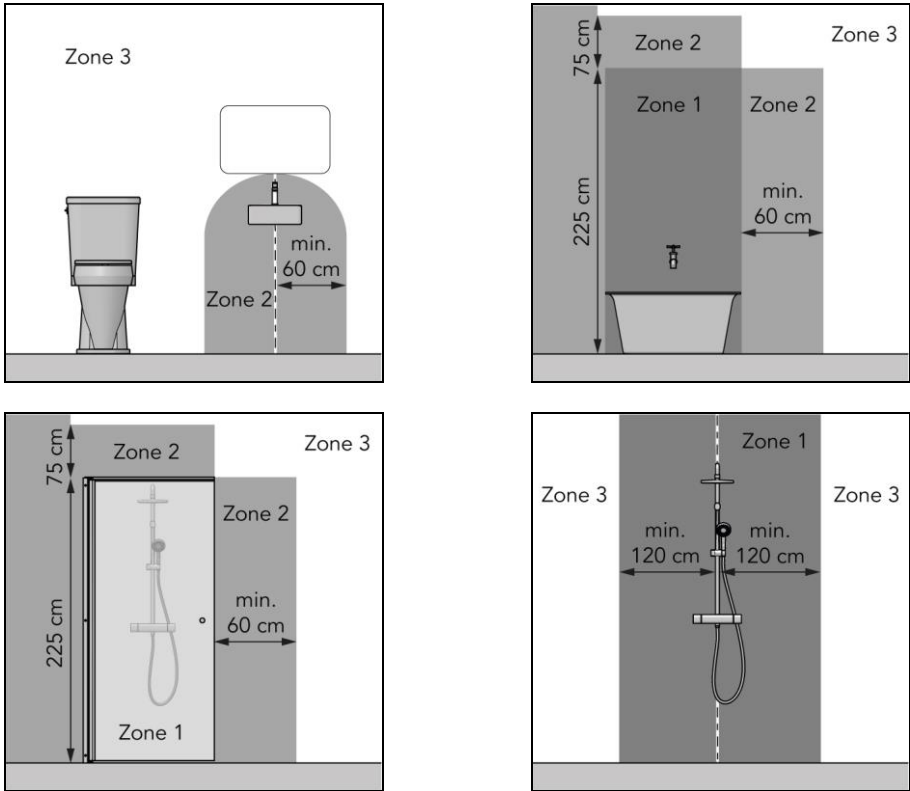

Figure 1
- in zone 3 of a toilet room or bathroom with a bath, shower with screen and shower without screen (Figure 1);